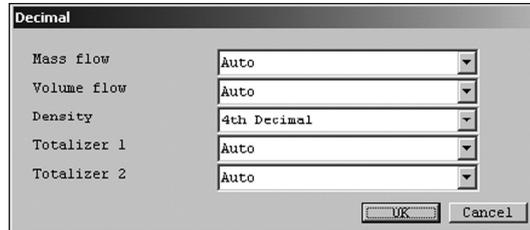

Fig.77
- ① Click the "Setup (S)" menu, and then select and click "Decimal" from the "LCD" drop-down list.
- ② The following window will be displayed (Fig. 77). Set the decimal point position to be used for measurement values displayed on the LCD here.